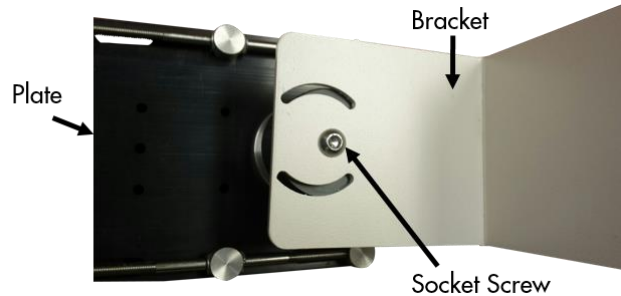

Fig. 1
1. Remove socket screw on bottom of the bracket using a 5/32" hex key and remove the plate. (Fig.1)